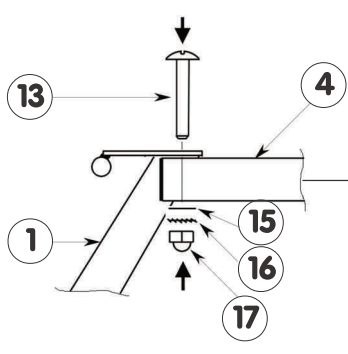

Figure 1
- 1 - Install the fixed leg (1) onto the rails (4) but do not tighten the screws (13), (15), (16) and (17), as shown in detail view (see Fig.1).